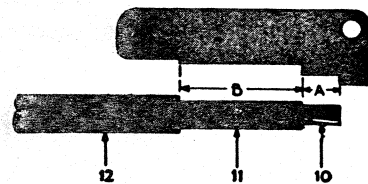

Fig. 7
2. Remove cable insulation and lead covering accurately, using the gage (Fig. 7) furnished with the cutout. Compare the ampere rating on the gage with that on the cutout, to be sure they agree and that the correct gage is being used.